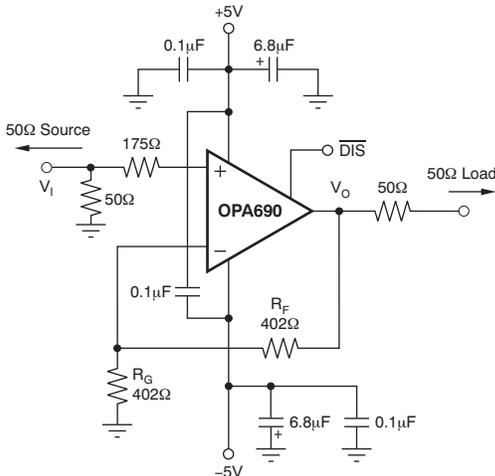
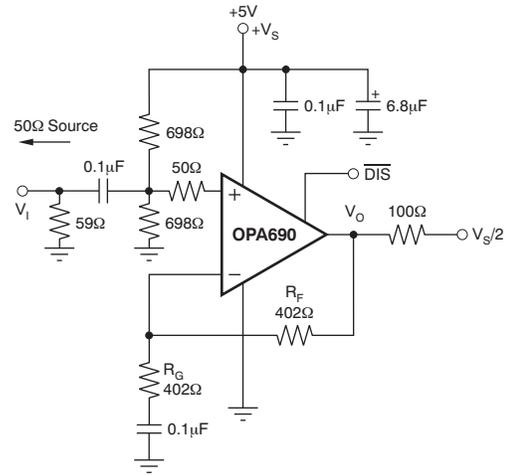
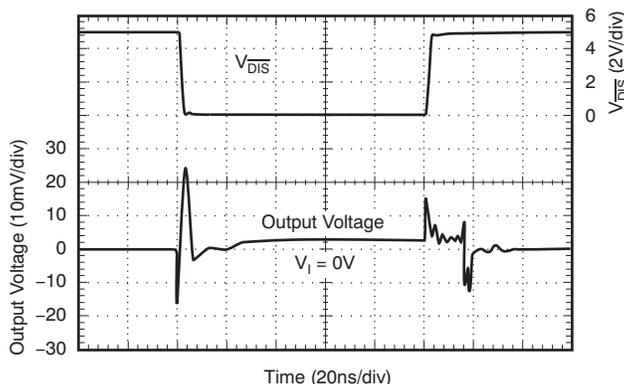

Figure 36. DC-Coupled, G = 2, Bipolar-Supply Specification and Test Circuit
Figure 37. AC-Coupled, G = 2, Single-Supply Specification and Test Circuit
Figure 44. Disable or Enable Glitch
$T_A = 25^\circ\text{C}$, $G = 2$, $R_F = 402\ \Omega$, and $R_L = 100\ \Omega$; see Figure 36 for AC performance only (unless otherwise noted)
$T_A = 25^\circ\text{C}$, $G = 2$, $R_F = 402\ \Omega$, and $R_L = 100\ \Omega$; see Figure 37 for AC performance only (unless otherwise noted)
Figure 36 shows the DC-coupled, gain of 2, dual power supply circuit configuration used as the basis of the ± 5 V and *Typical Characteristics: $V_S = \pm 5$ V*. For test purposes, the input impedance is set to 50 Ω with a resistor to ground and the output impedance is set to 50 Ω with a series output resistor. Voltage swings reported in the specifications are taken directly at the input and output pins, while output powers (dBm) are at the matched 50- Ω load. For the circuit of Figure 36, the total effective load is 100 Ω || 804 Ω . The disable control line is typically left open to ensure normal amplifier operation. Two optional components are included in Figure 36. An additional resistor (175 Ω) is included in series with the noninverting input. Combined with the 25- Ω DC source resistance looking back towards the signal generator, this gives an input bias current cancelling resistance that matches the 200- Ω source resistance seen at the inverting input (see *DC Accuracy and Offset Control*). In addition to the usual power-supply decoupling capacitors to ground, a 0.1- μ F capacitor is included between the two power-supply pins. In practical printed-circuit board (PCB) layouts, this optional-added capacitor typically improves the 2nd-harmonic distortion performance by 3 dB to 6 dB.
Figure 37 shows the AC-coupled, gain of 2, single-supply circuit configuration which is the basis of the 5 V and *Typical Characteristics: 5 V*. Though not a rail-to-rail design, the OPA690 requires minimal input and output voltage headroom compared to other very wideband voltage-feedback op amps. It delivers a 3-V_{PP} output swing on a single 5-V supply with > 150-MHz bandwidth. The key requirement of broadband single-supply operation is to maintain input and output signal swings within the useable voltage ranges at both the input and the output. The circuit of Figure 37 establishes an input midpoint bias using a simple resistive divider from the 5-V supply (two 698-Ω resistors). The input signal is then AC-coupled into the midpoint voltage bias. The input voltage can swing to within 1.5 V of either supply pin, giving a 2-V_{PP} input signal range centered between the supply pins. The input impedance matching resistor (59 Ω) used for testing is adjusted to give a 50-Ω input load when the parallel combination of the biasing divider network is included.
Voltage-feedback op amps exhibit decreasing closed-loop bandwidth as the signal gain is increased. In theory, this relationship is described by the gain bandwidth product (GBP) shown in the *Electrical Characteristics: V_S = ±5 V*. Ideally, dividing GBP by the noninverting signal gain (also called the Noise Gain, or NG) predicts the closed-loop bandwidth. In practice, this only holds true when the phase margin approaches 90°, as it does in high gain configurations. At low gains (increased feedback factors), most amplifiers exhibit a more complex response with lower phase margin. The OPA690 is compensated to give a slightly peaked response in a noninverting gain of 2 (see Figure 36). This results in a typical gain of 2 bandwidth of 220 MHz, far exceeding that predicted by dividing the 300 MHz GBP by 2. Increasing the gain causes the phase margin to approach 90° and the bandwidth to more closely approach the predicted value of (GBP/NG). At a gain of 10, the 30-MHz bandwidth shown in *Electrical Characteristics: V_S = ±5 V* agrees with that predicted using the simple formula and the typical GBP of 300 MHz.
The frequency response in a gain of 2 may be modified to achieve exceptional flatness simply by increasing the noise gain to 2.5. One way to do this, without affecting the 2 signal gain, is to add an 804- Ω resistor across the two inputs in the circuit of Figure 36. A similar technique may be used to reduce peaking in unity-gain (voltage follower) applications. For example, by using a 402- Ω feedback resistor along with a 402- Ω resistor across the two op amp inputs, the voltage follower response is similar to the gain of 2 response of Figure 37. Reducing the value of the resistor across the op amp inputs further limits the frequency response due to increased noise gain.
Because the OPA690 is a general-purpose, wideband voltage-feedback op amp, all of the familiar op amp application circuits are available to the designer. Inverting operation is one of the more common requirements and offers several performance benefits. Figure 38 shows a typical inverting configuration where the I/O impedances and signal gain from Figure 36 are retained in an inverting circuit configuration.
The second major consideration, touched on in the previous paragraph, is that the signal source impedance becomes part of the noise gain equation and influences the bandwidth. For the example in Figure 38, the R_M value combines in parallel with the external 50- Ω source impedance, yielding an effective driving impedance of $50\ \Omega \parallel 67\ \Omega = 28.6\ \Omega$. This impedance is added in series with R_G for calculating the noise gain (NG). The resultant NG is 2.8 for Figure 38, as opposed to only 2 if R_M could be eliminated as discussed above. Therefore, the bandwidth is slightly lower for the gain of ± 2 circuit of Figure 38 than for the gain of 2 circuit of Figure 36.
The OPA690 provides good distortion performance into a 100-Ω load on ±5-V supplies. Relative to alternative solutions, it provides exceptional performance into lighter loads and/or operating on a single 5-V supply. Generally, until the fundamental signal reaches very high frequency or power levels, the 2nd-harmonic dominates the distortion with a negligible 3rd-harmonic component. Focusing then on the 2nd-harmonic, increasing the load impedance improves distortion directly. Remember that the total load includes the feedback network; in the noninverting configuration (see Figure 36), this is sum of $R_F + R_G$, while in the inverting configuration it is just R_F . Also, providing an additional supply-decoupling capacitor (0.1 μF) between the supply pins (for bipolar operation) improves the 2nd-order distortion slightly (3 dB to 6 dB).
Evaluating these two equations for the OPA690 circuit and component values (see Figure 36) gives a total output spot noise voltage of 12.3 nV/√Hz and a total equivalent input spot noise voltage of 6.1 nV/√Hz. This is including the noise added by the bias current cancellation resistor (175 Ω) on the noninverting input. This total input-referred spot noise voltage is only slightly higher than the 5.5-nV/√Hz specification for the op amp voltage noise alone. This is the case as long as the impedances appearing at each op amp input are limited to the previously recommend maximum value of 300 Ω. Keeping both (R_F || R_G) and the noninverting input source impedance less than 300 Ω satisfies both noise and frequency response flatness considerations. Because the resistor-induced noise is relatively negligible, additional capacitive decoupling across the bias current cancellation resistor (R_B) for the inverting op amp configuration of Figure 38 is not required.
The balanced input stage of a wideband voltage-feedback op amp allows good output DC accuracy in a wide variety of applications. The power-supply current trim for the OPA690 gives even tighter control than comparable amplifiers. Although the high-speed input stage does require relatively high input bias current (typically ±8 μA at each input terminal), the close matching between them may be used to reduce the output DC error caused by this current. The total output offset voltage may be considerably reduced by matching the DC source resistances appearing at the two inputs. This reduces the output dc error due to the input bias currents to the offset current times the feedback resistor. Evaluating the configuration of Figure 36, and using worst-case 25°C input offset voltage and current specifications, gives a worst-case output offset voltage equal to:
One key parameter in disable operation is the output glitch when switching in and out of the disabled mode. Figure 44 shows these glitches for the circuit of Figure 36 with the input signal at 0 V. The glitch waveform at the output pin is plotted along with the $\overline{\text{DIS}}$ pin voltage.
The transition edge rate (dV/dt) of the $\overline{\text{DIS}}$ control line influences this glitch. For the plot of Figure 44, the edge rate was reduced until no further reduction in glitch amplitude was observed. This approximately 1-V/ns maximum slew rate may be achieved by adding a simple RC filter into the $\overline{\text{DIS}}$ pin from a higher speed logic line. If extremely fast transition logic is used, a 1-kΩ series resistor between the logic gate and the $\overline{\text{DIS}}$ input pin provides adequate bandlimiting using just the parasitic input capacitance on the $\overline{\text{DIS}}$ pin while still ensuring adequate logic level swing.
A good rule of thumb is to target the parallel combination of R_F and R_G (see Figure 36) to be less than approximately 300 Ω. The combined impedance $R_F \parallel R_G$ interacts with the inverting input capacitance, placing an additional pole in the feedback network and thus, a zero in the forward response. Assuming a 2-pF total parasitic on the inverting node, holding $R_F \parallel R_G < 300 \Omega$ keeps this pole above 250 MHz. By itself, this constraint implies that the feedback resistor R_F can increase to several kΩ at high gains. This is acceptable as long as the pole formed by R_F and any parasitic capacitance appearing in parallel is kept out of the frequency range of interest.
As a worst-case example, compute the maximum T_J using an OPA690-DBV (6-pin SOT-23 package) in the circuit of Figure 36 operating at the maximum specified ambient temperature of 85°C and driving a grounded 20-Ω load.
The *Single-Supply ADC Driver* shows one possible (inverting) interface. Figure 45 shows the test circuit of Figure 37 modified for a capacitive (ADC) load and with an optional output pulldown resistor (R_B).